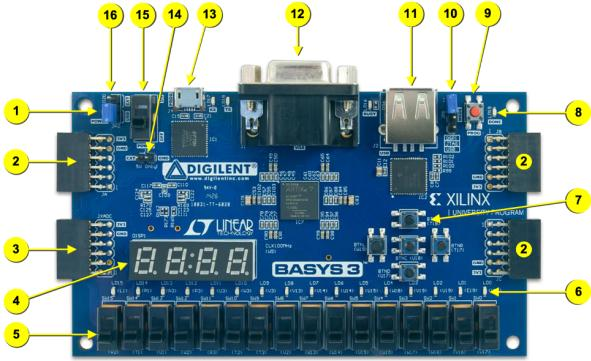

Figure 1. Basys 3 FPGA board with callouts.
The speed setpoint is encoded on 6 bits. The push buttons (ref. 7 of Figure 1) are used to do the acquisition.
Build the circuit performing the setpoint acquisition. Display the setpoint value on the two 7-segment displays on the right (ref. 4 of Figure 1).